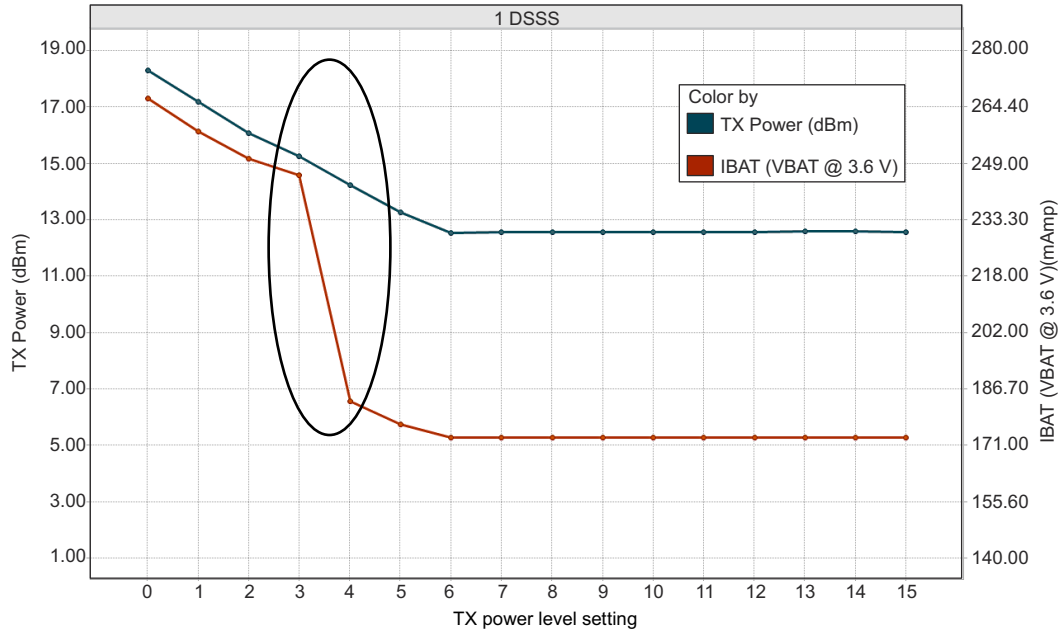
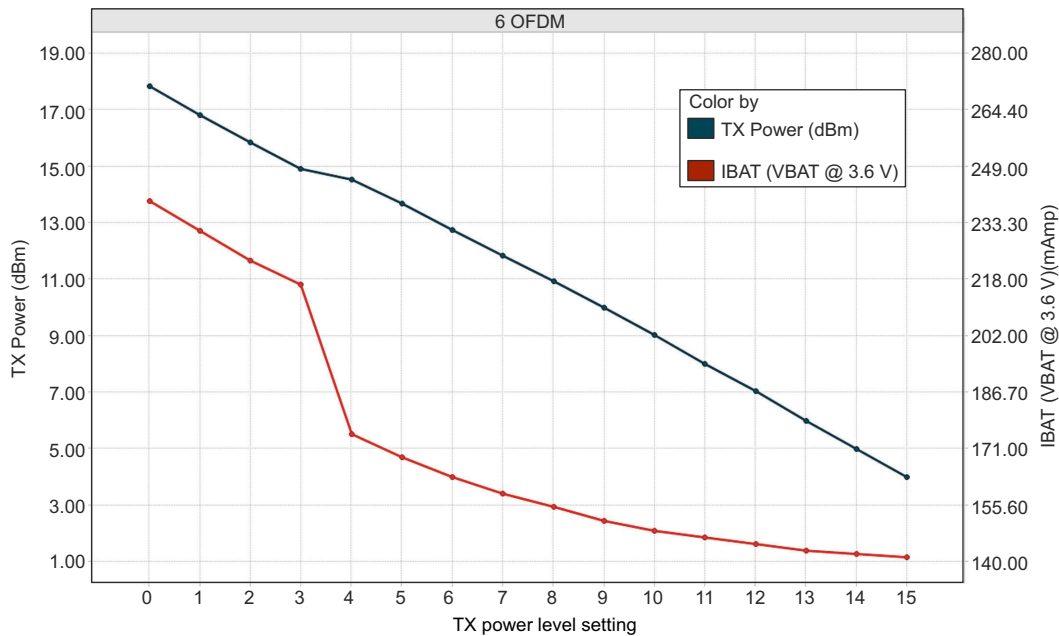
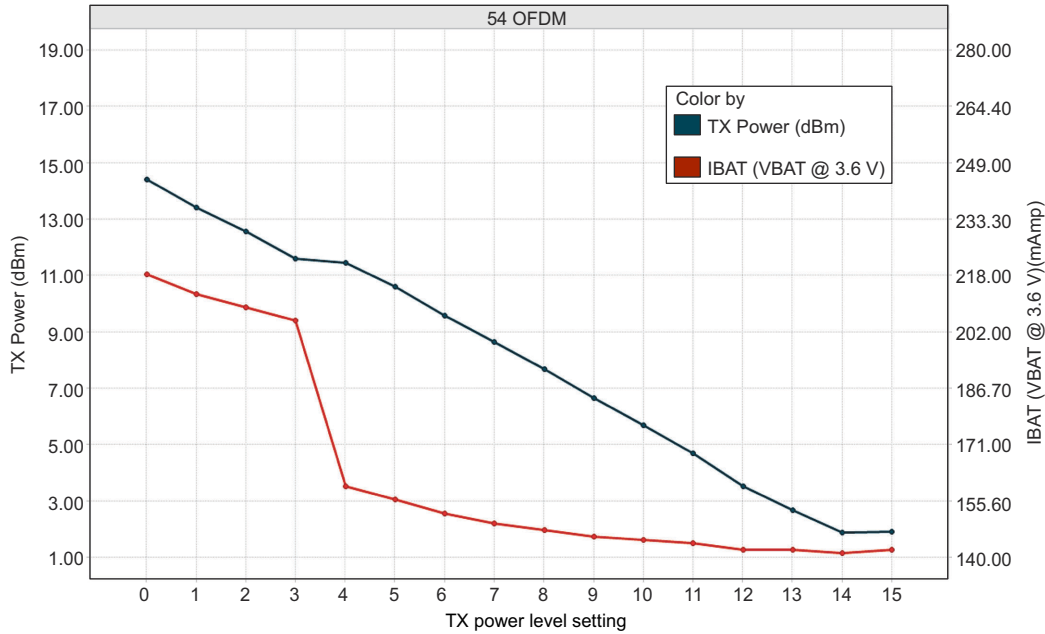

图 8-1. TX Power and IBAT vs TX Power Level Settings (1 DSSS)
图 8-2. TX Power and IBAT vs TX Power Level Settings (6 OFDM)
图 8-3. TX Power and IBAT vs TX Power Level Settings (54 OFDM)
- (1) TX power level = 0 implies maximum power (see Fig 8-1, Fig 8-2, and Fig 8-3). TX power level = 4 implies output power backed off approximately 4 dB.
- (2) The CC3135 system is a constant power-source system. The active current numbers scale based on the V_{BAT} voltage supplied.
- (3) The RX current is measured with a 1-Mbps throughput rate.
- (4) DTIM = 1
- (5) The complete calibration can take up to 17 mJ of energy from the battery over a time of 24 ms. In default mode, calibration is performed sparingly, and typically occurs when re-enabling the NWP and when the temperature has changed by more than 20°C. There are two additional calibration modes that may be used to reduced or completely eliminate the calibration event. For further details, see CC31XX CC32XX SimpleLink™ Wi-Fi® and IoT Network Processor Programmer's Guide.
- (1) TX power level = 0 implies maximum power (see 图 8-1, 图 8-2, and 图 8-3). TX power level = 4 implies output power backed off approximately 4 dB.
- (5) The complete calibration can take up to 17 mJ of energy from the battery over a time of 24 ms. In default mode, calibration is performed sparingly, and typically occurs when re-enabling the NWP and when the temperature has changed by more than 20°C . There are two additional calibration modes that may be used to reduced or completely eliminate the calibration event. For further details, see CC31XX, CC32XX SimpleLink™ Wi-Fi® and IoT Network Processor Programmer's Guide.
图 8-1, 图 8-2, and 图 8-3 show TX power and IBAT versus TX power level settings for the CC3135 device at modulations of 1 DSSS, 6 OFDM, and 54 OFDM, respectively.
In 图 8-1, the area enclosed in the circle represents a significant reduction in current during transition from TX power level 3 to level 4. In the case of lower range requirements (14-dBm output power), TI recommends using TX power level 4 to reduce the current.